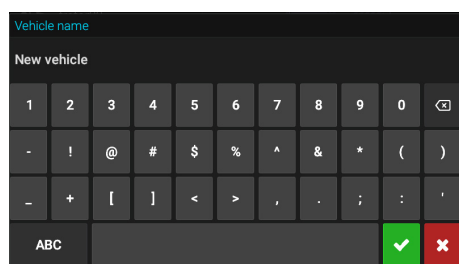

Fig. 15
-  Allows entering numbers and symbols (Fig. 15)